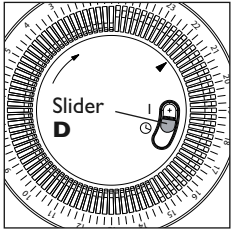

Fig.5
On the contrary if you wish to operate the heater at a set time, first put the slider (D) on position ⌚ (fig. 5) then proceed as follows:
- To turn the appliance off completely, turn the dial (A) to the “0” position and unplug from the mains.